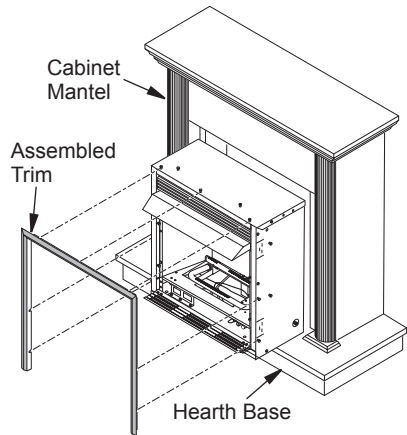

Figure 13 - Installing Fireplace into Mantel Assembly
- Carefully insert fireplace into cabinet mantel (see Figure 13). Be careful not to scratch or damage hearth base or cabinet mantel.